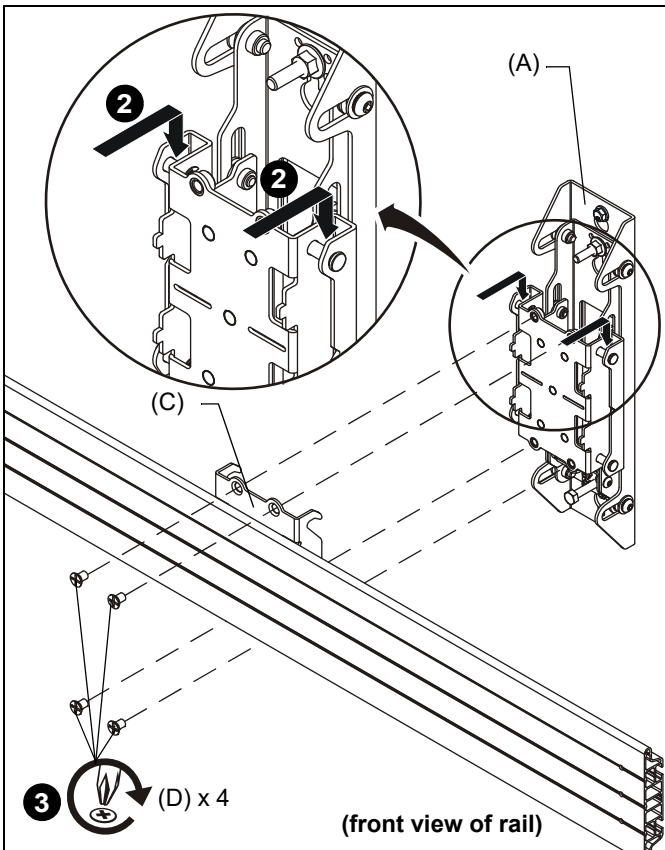

Figure 16
- Hook height adjust plates (C) over wall uprights (A or B). (See Figure 16)
**NOTE:** Hook all height adjust plates (C) over wall uprights (A or B), and approximately center mounting rail over the span of the wall uprights (A or B) **BEFORE** proceeding to next step.
- Fasten mounting rail to wall uprights using four 5/16 x 1/2" Phillips flat head screws (D) through height adjust plate (C) and into wall uprights (A or B) and tighten all screws. (See Figure 16)